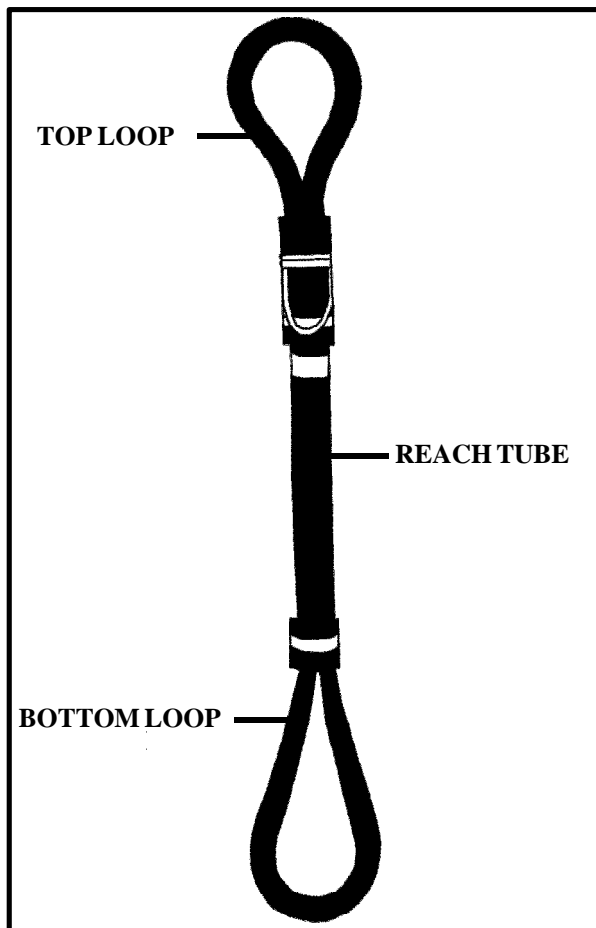

Figure 8-12. 11,000- and 25,000-Pound Capacity Reach Pendants
**a. The 11,000-Pound Capacity Reach Pendant.** The 11-K, NSN 4020-01-365-3115, part no. DSG-5-11K, is a reach pendant approximately 5 feet long with an 11,000-pound safe working load capacity. The top eye is black and has a smaller diameter loop, while the bottom eye is green with a larger diameter loop. The safe working load capacity is stamped on the reach tube (Figure 8-12). Remove the sling set apex fitting pin; place the pendant lower eye in the apex fitting; and reinstall the apex fitting pin to use the pendant with a sling set.
**b. The 25,000-Pound Capacity Reach Pendant.** The 25-K, NSN 4020-01-337-3185, part no. BOS-14-K7, is a reach pendant approximately 5 feet long with a 25,000-pound safe working load capacity. The top eye is black and has a smaller diameter loop, while the bottom eye is black with a larger diameter loop. The safe working load capacity is stamped on the reach tube (Figure 8-12). Remove the sling set apex fitting pin; place the pendant lower eye in the apex fitting; and reinstall the apex fitting pin to use the pendant with a sling set.